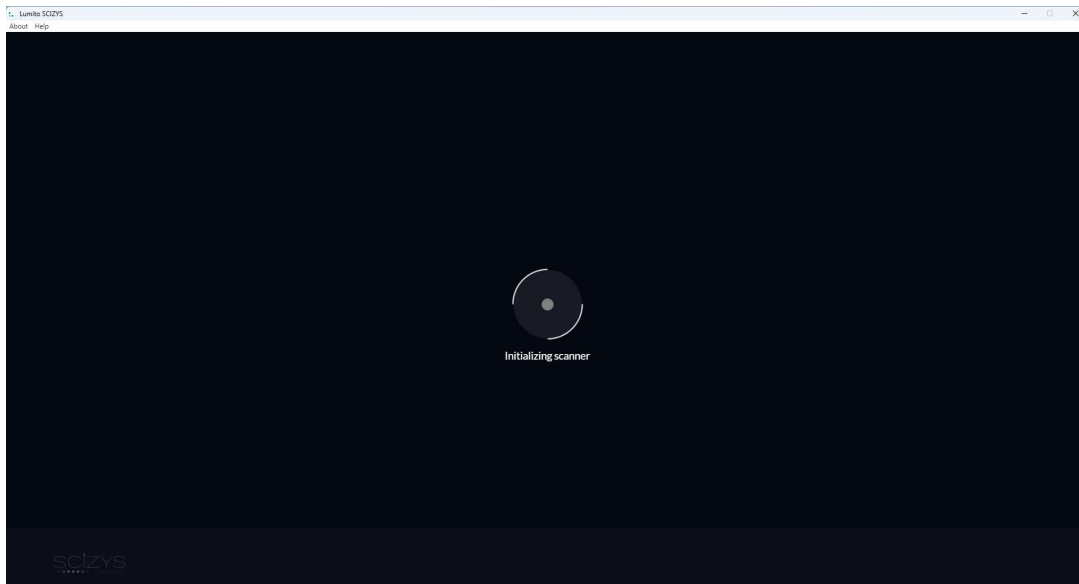

Figure 6-1 Initialisation of SCIZYS S1.
3. Log in to Windows. SCIZYS software will automatically initialise when logged in (*Figure 6-1*).